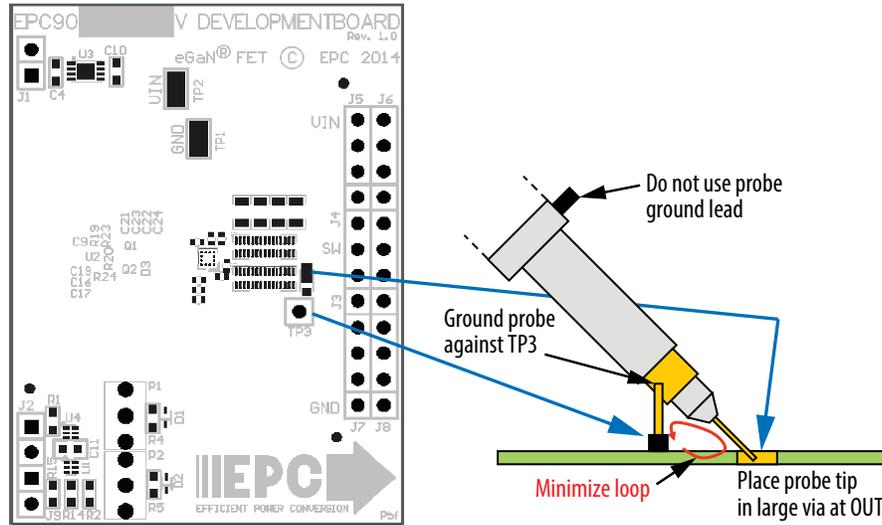

Figure 3: Proper measurement of switch node – OUT.
**NOTE.** When measuring the high frequency content switch node (OUT), care must be taken to avoid long ground leads. Measure the switch node (OUT) by placing the oscilloscope probe tip through the large via on the switch node (designed for this purpose) and grounding the probe directly across the GND terminals provided. See figure 3 for proper scope probe technique.